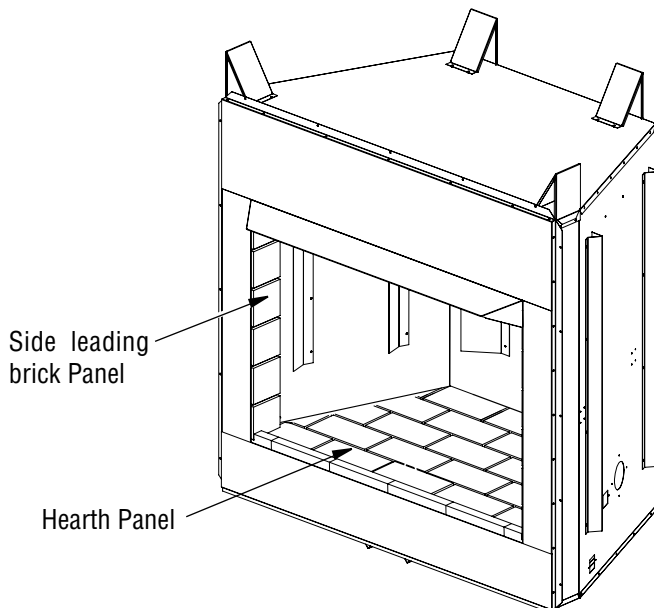

Figure 13 - Installing Hearth and Leading Brick panels
1. Install bottom brick panel. Using at least two people, hold bottom brick panel by its side edges. Place the back edge of bottom panel into the firebox first and carefully lower the front edge of panel. Make sure bottom panel is centered in the firebox and flush with the front of the fireplace. Be careful not to pinch your fingers between the panel and firebox (Figure 13).
2. Install the left and right side leading bricks (Figure 13).